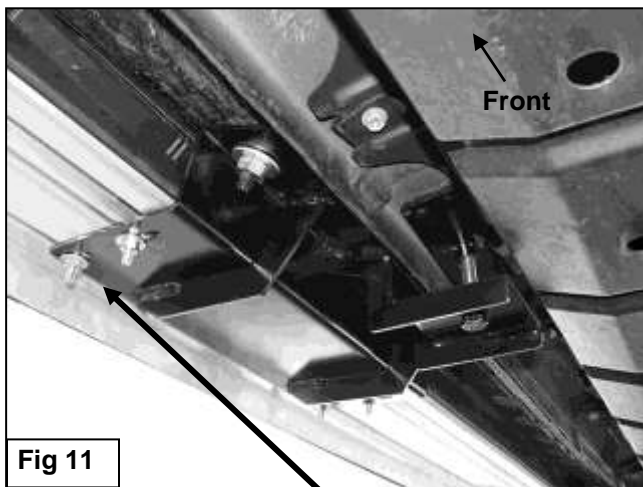

Fig 11
6. Attach the Running Board to the Mounting Brackets with the included (6) 6mm Flat Washers, (6) 6mm Lock Washers and (6) 6mm Hex Nuts, **(Figure 11)**. Do not tighten at this time.